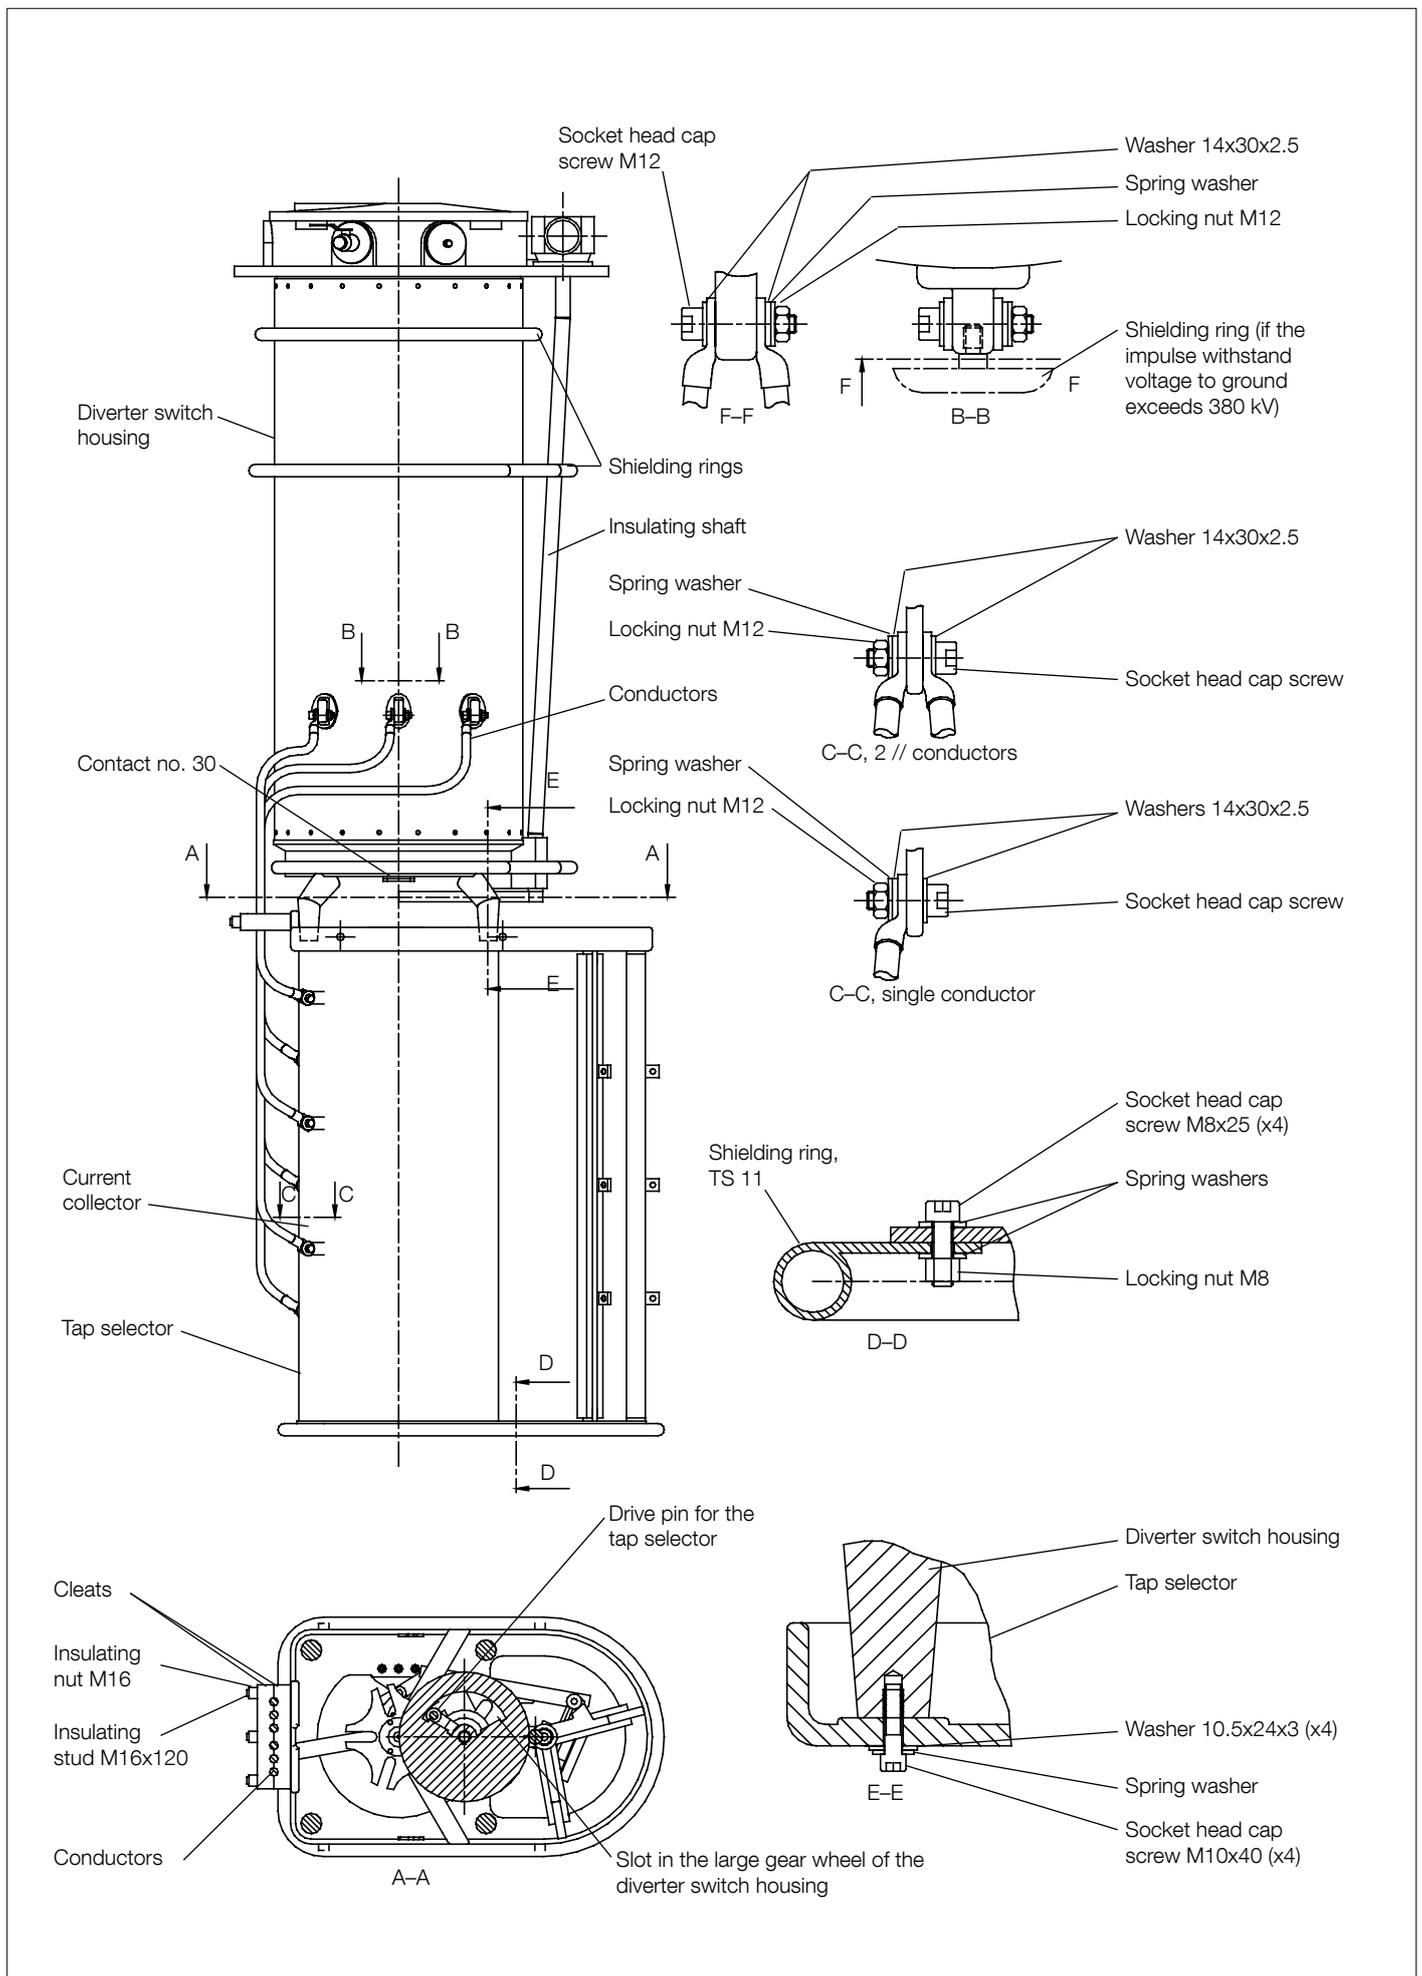

Fig. 9. Diverter switch UCL/VUCL and tap selector, size III.
7. Lift the diverter switch housing into position and fit the tap selector to the diverter switch housing; see Fig. 9. The tap selector drive pin must fit into the large gear wheel slot; see view A-A.
8. Insert four M10x40 screws and washers through the tap selector upper part to the four supports of the diverter switch housing. Tighten the screws; see view E-E, Fig. 9.
All terminals must have conductors or connections, including contact no. 30; see Fig. 9.